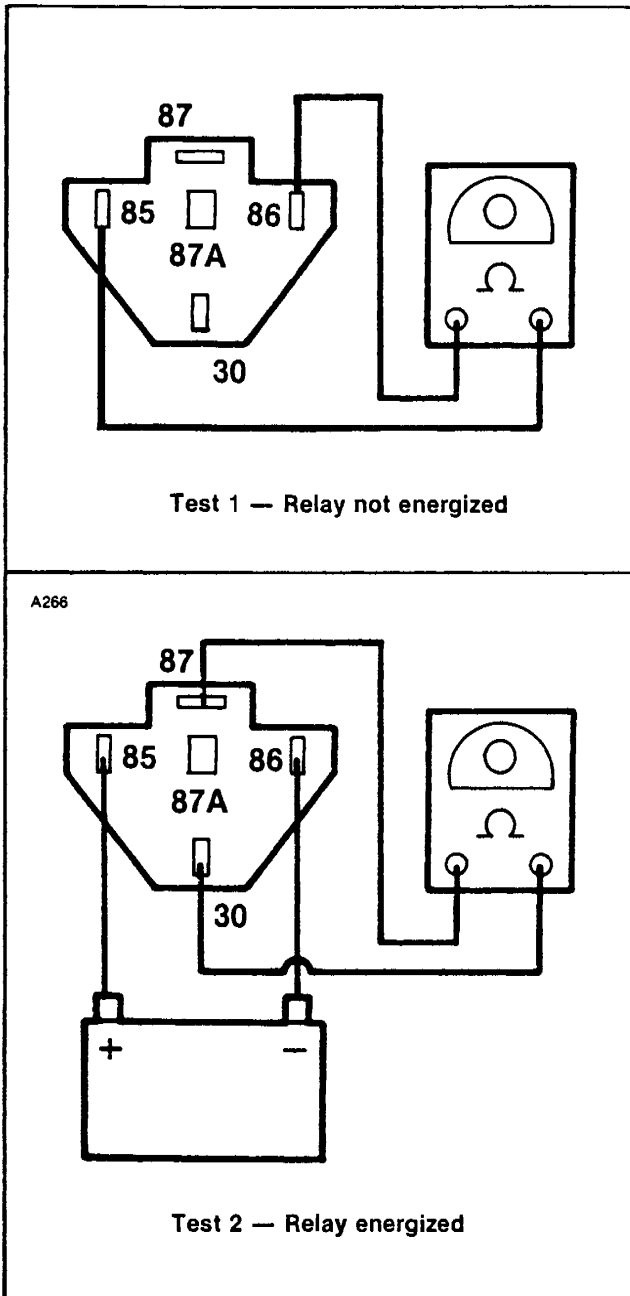

Figure 5-24. Starter Relay Tests
3. See Figure 5-24, Test 1. Check for continuity between terminals 85 and 86. If continuity does not exist - replace relay. If continuity is present, continue at step 4.
4. See Figure 5-24. Connect the battery leads to terminals 86 and 85 to energize the relay. Check for continuity between terminals 30 and 87. A good relay will show continuity (continuity tester lamp on or a zero ohm reading on the ohmmeter). A defective relay will not have continuity and should be replaced.